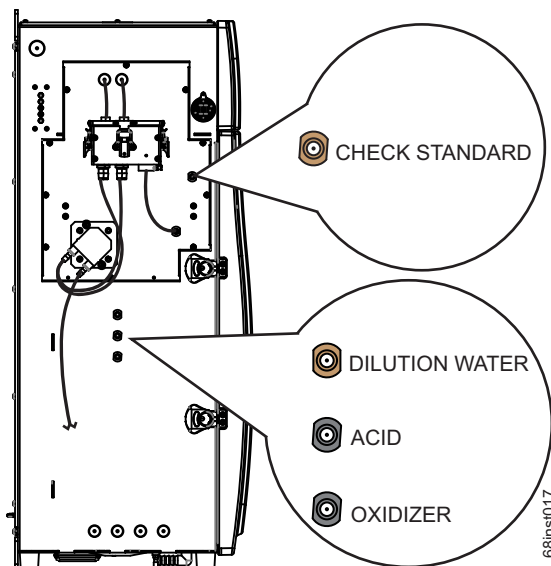

Figure 35: Connections (2-Stream, Clean Water Sampler shown)
Access one of the 1/8-in. OD tubes in the Analyzer's accessories. Attach the 1/4-28 PEEK fitting in the Check Standard port on the left side of the Analyzer. The fitting should be finger-tight. See Figure 35: Connections \(2-Stream, Clean Water Sampler shown\) on page 106.
1. Attach one end of the tubing to the top tan port labeled “**DILUTION WATER**” on the left side of the Analyzer, and tighten the PEEK nut finger-tight. See Figure 35 on page 106.
3. Attach one end of the tubing to the middle (black) port labeled “**ACID**”, and tighten the PEEK nut finger-tight. See Figure 35 on page 106.
2. Attach one end of the tubing to the bottom (black) port labeled “**OXIDIZER**” on the left side of the Analyzer and tighten the PEEK nut finger-tight. See Figure 35 on page 106.